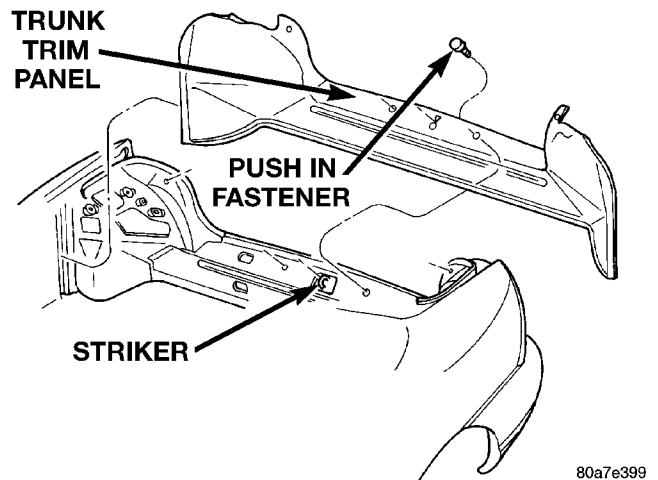

Fig. 79 Trunk Trim Panel
- (1) Remove fasteners holding trunk trim panel to vehicle (Fig. 79).
- (2) Remove trunk trim panel from vehicle.